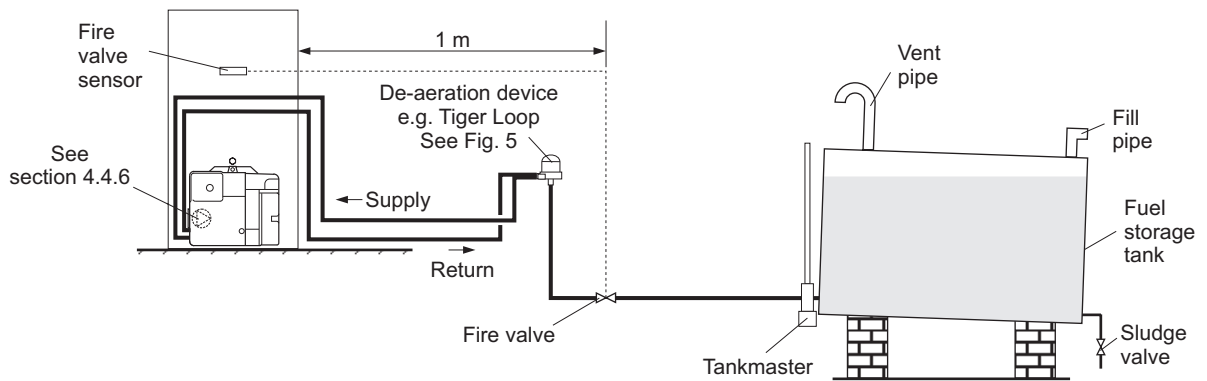

Fig. 4 - De-aeration device system
4.4.5 Tiger Loop system - (See Figs. 4 and 5)
- 2 The de-aerator is connected close to the boiler as a two pipe system (omitting the non-return valve) as shown in Fig. 4. Refer to the manufacturers instructions supplied with the de-aerator. The de-aerator **must** be mounted vertically and externally.